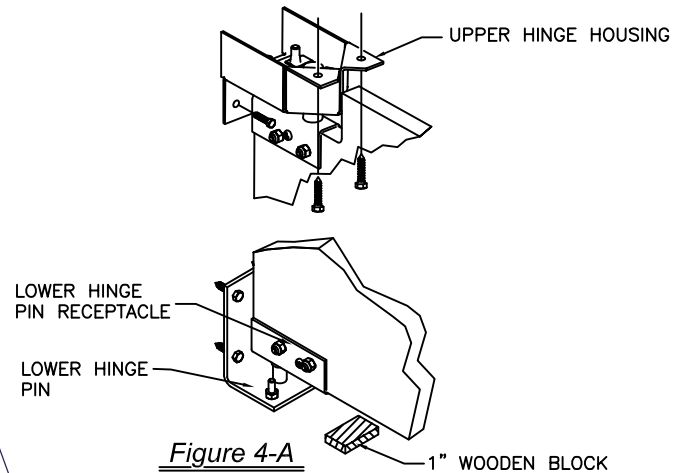

Figure 4-A
a) Position door panel so that the pin receptacle on the bottom of the door is on the lower hinge pin (installed) (see figure 4-A).
b) Using the self-drilling/tapping screws provided, install top hinge to jamb and lintel (see figure 4-A).
Note: it is helpful to place a 1" wooden block beneath the bottom of the door during these steps (see figure 4-A).
Important- Lower hinge location is set at factory. do not attempt to adjust lower hinge pin receptacle. (see fig. 4-A)